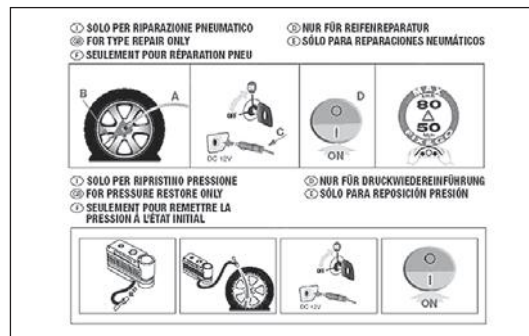

fig. 151
- ☐ instruction brochure (see fig. 151), to be used for prompt and proper use of the quick repair kit and then presented to the personnel charged with handling the treated tyre;